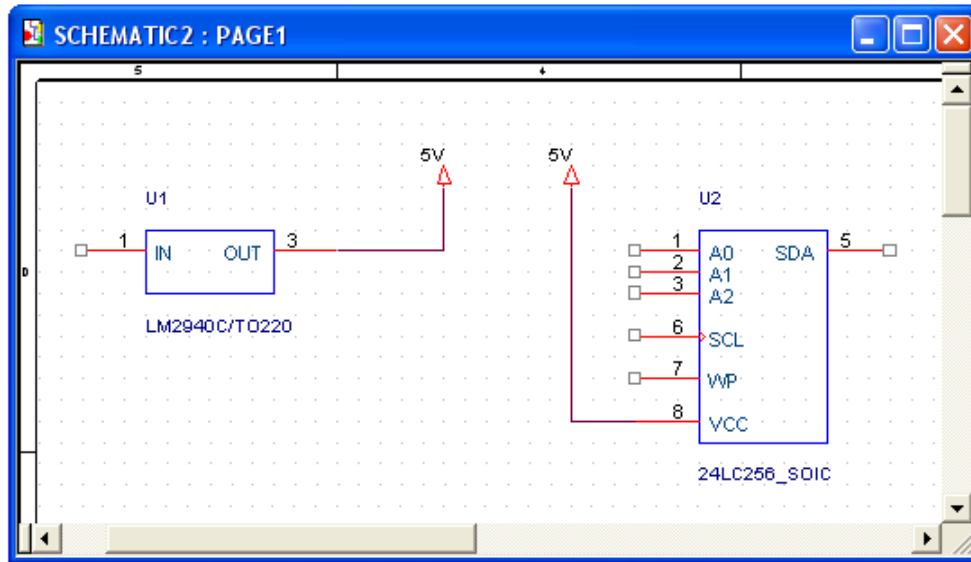

Figure 4.4: Connecting Power Pins
- Connect the pin to the 5V symbol using a wire (**See Figure 4.4**)